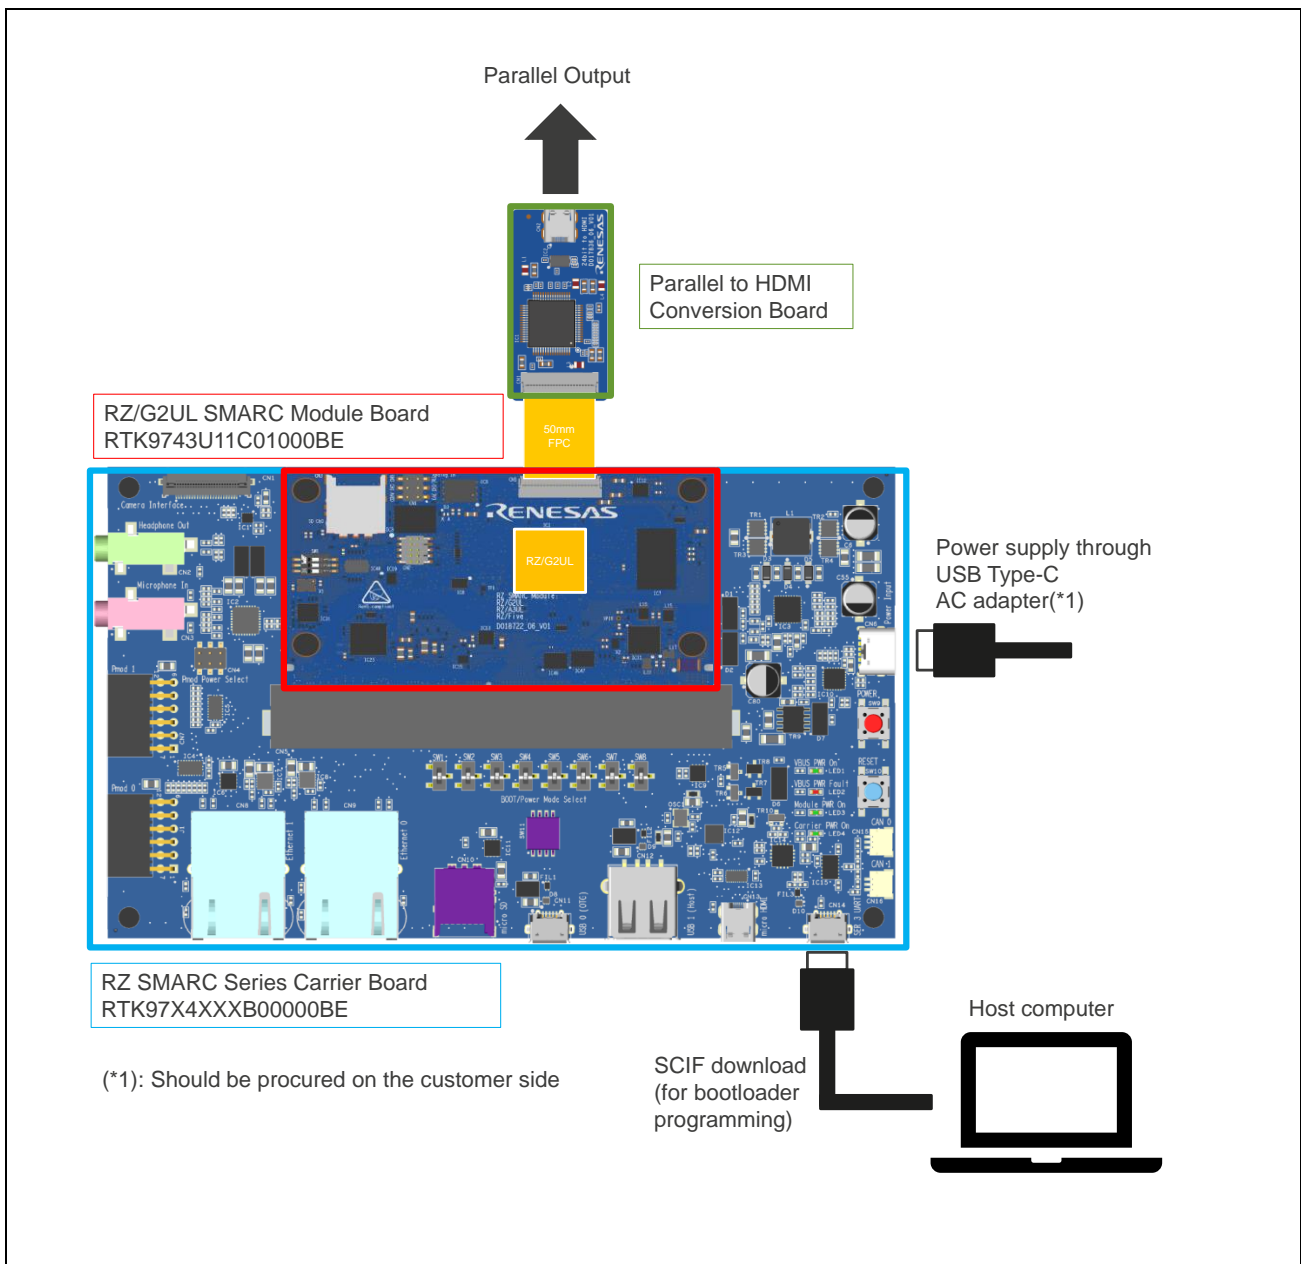

Figure 4.1 Example of System Configuration Using the Parallel to HDMI Conversion Board
**Figure 4.1** shows an example of system configuration using the Parallel to HDMI Conversion Board.